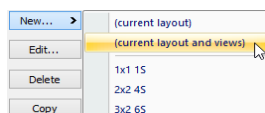

Figure 197 – Current layout and views item
3. Select the **(current layout and views)** item in the displayed menu (see Figure 197).